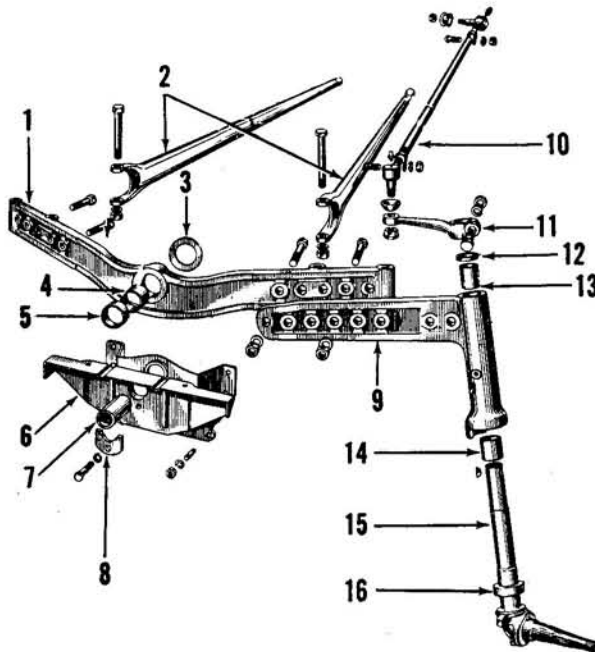

Fig. FO500—Exploded view of front axle and related parts used on the Fordson Dextra. Similarity to American produced Ford tractors will be noted.
1. To renew the spindle bushings, support front of tractor and disconnect steering arms from the wheel spindles. Slide spindle and wheel assemblies from axle extensions and remove old bushings using a cape chisel. Install new bushings using a piloted drift of the appropriate size. Internal diameter of new bushings are 1.2495-1.2515 for the upper bushing (13—Fig. FO500) and 1.3425-1.3445 for the lower bushing (14). Diameter of a new spindle (15) is 1.245-1.246 at the upper bearing surface and 1.338-1.339 for the lower.
2. To remove the axle center member (1—Fig. FO500), support front of tractor and unbolt radius rods and axle extensions from the axle center member. Remove the axle pivot pin clamping bolt and retainer (8) and remove the pivot pin using a pilot bearing puller and slide hammer. Slide axle center member sideways out of front support (6).
3. To remove the front support (6—Fig. FO500), remove front axle as outlined in paragraph 2, drain cooling system and remove the hinged hood, grille assembly and radiator. Unbolt and remove the front support from the engine mounting bolts.